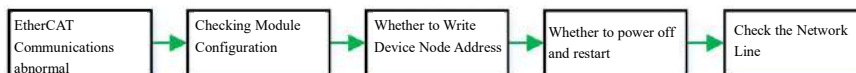

Figure 6-2-1 Troubleshooting process
- Figure 6-2-1 shows the troubleshooting process when the communication with Omron PLC is abnormal.